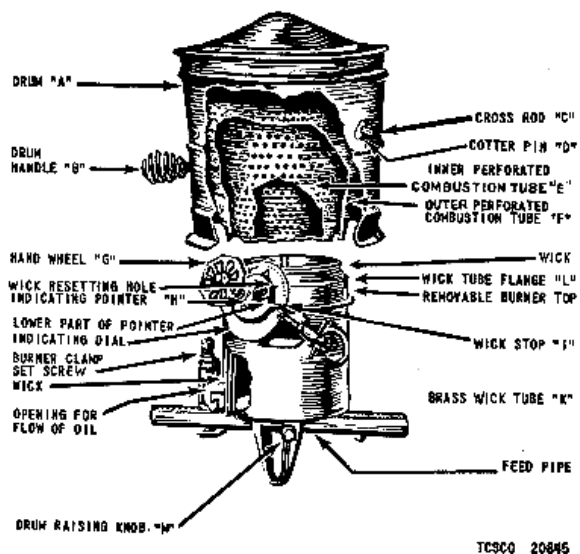
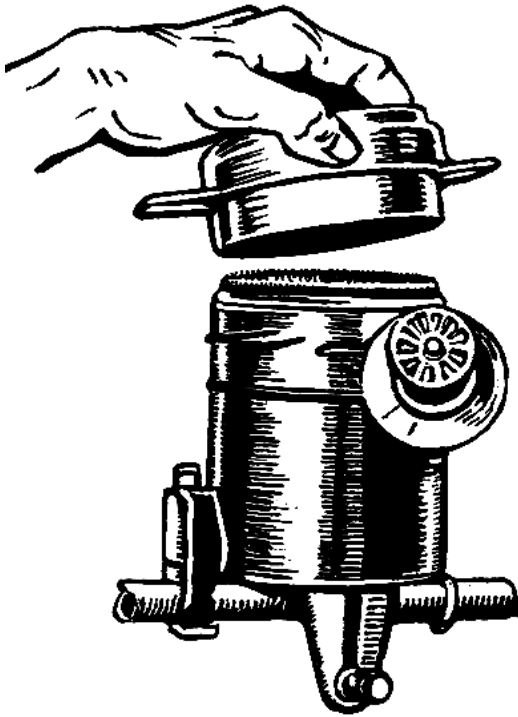

Figure 34. Cross section of kerosene burner.
Figure 36. Dismantling burner for cleaning.
Before operating the water heater, see that the wick is properly set in the following manner (fig. 34).
Fill the oil reservoir and see that all parts of the burner are in place as shown in figure 34, with the drum (A) in raised position. Drum is raised by means of a small handle (M) in the slot below the feed pipe. Turn the hand wheel to the right until indicator pointer rests against wick stop. Light the wick in several places, then lower drum gently in place by lowering handle (M) in the slot. Turn drum to the right and left by means of handle (B) to make sure that it rests evenly on the wick tube flange (L). Three to five minutes are required for the flame to reach its fullest height. The high flame should be clear blue in color, but when burner has been operating at low and is turned to high it will burn yellow for a short time.
- Turn hand wheel to left as far as it will go. b. When the flame has gone out, raise the drum by means of lifter handle (M) leaving it in the raised position as shown in figure 34. Leaving the drum in a raised position prevents oil from creeping up on
a. First remove burner drum, then raise the wick even with the top of the tubes. Scrape all carbon crust from the top of the wick with the edge of the cleaning tool furnished with the stove. Do not try to clean the wick too thoroughly as this unnecessarily wastes it. A certain amount of char on the edge of the wick gives a perfect flame. Now turn the wick down into the wick tube as far as it will go. Remove the screw top by taking hold of the wire handles and turning a quarter turn to the left (fig. 36). Scrape inside and outside of the screw top thoroughly, being careful to remove all dirt and carbon from the flange (L, fig. 34) on which the drum and combustion tube rest. Brush all loose particles of carbon or scale from the wick tubes and flange. Then wipe with a dry cloth and replace burner top and drum. See that holes in combustion tubes are clean and open.